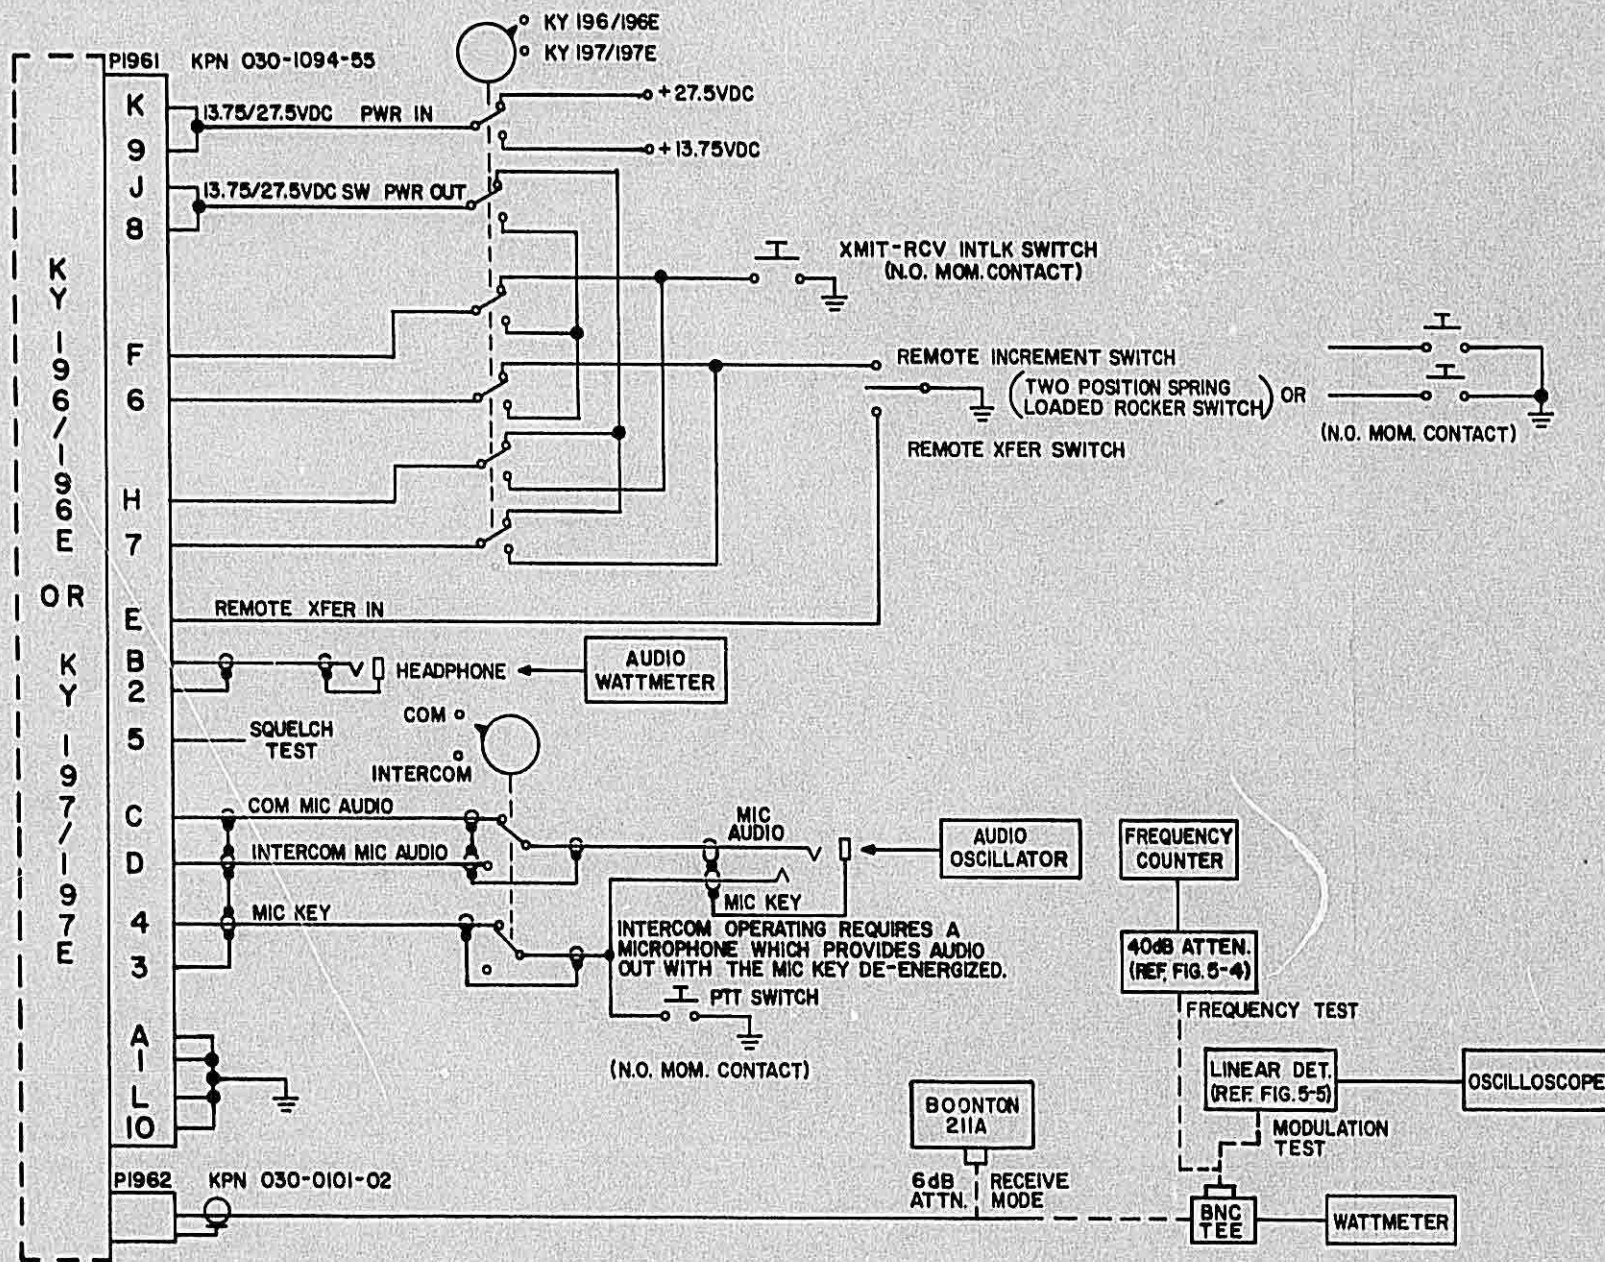

FIGURE 5-2 BENCH TEST HARNESS
- J. Test Harness: Figure 5-2 (customer fabricated)